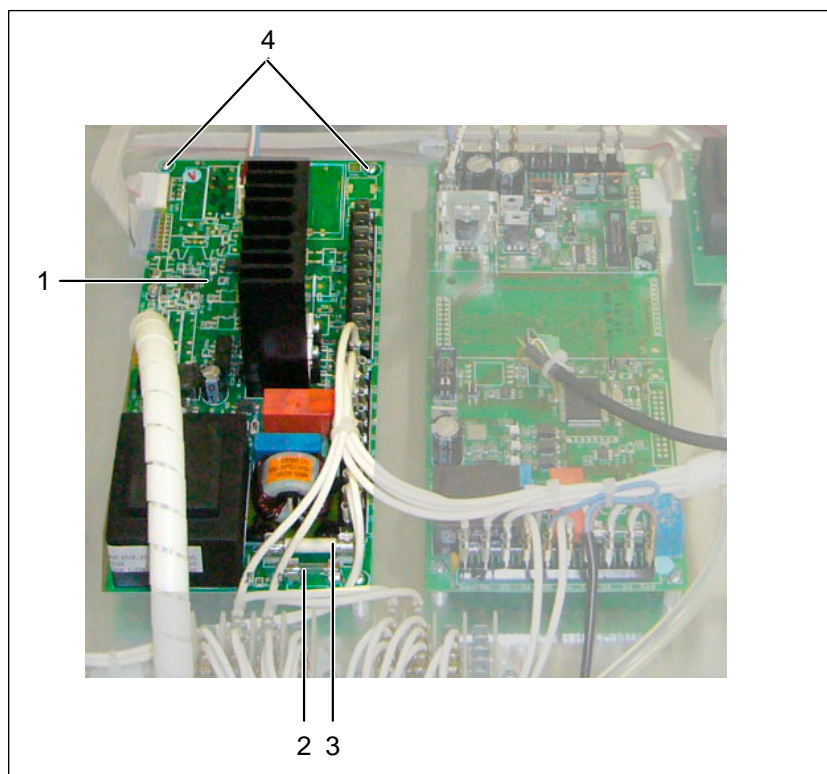

Fig. 6 Mainboard (see also control unit overview on pages 11 and 12)
The fuses for controller/display and appliance protection are located on the mainboard (Fig. 6).
3. Pull off all cables from the mainboard (Fig. 6). Label unmarked cables with adhesive tape to avoid confusion when reconnecting.